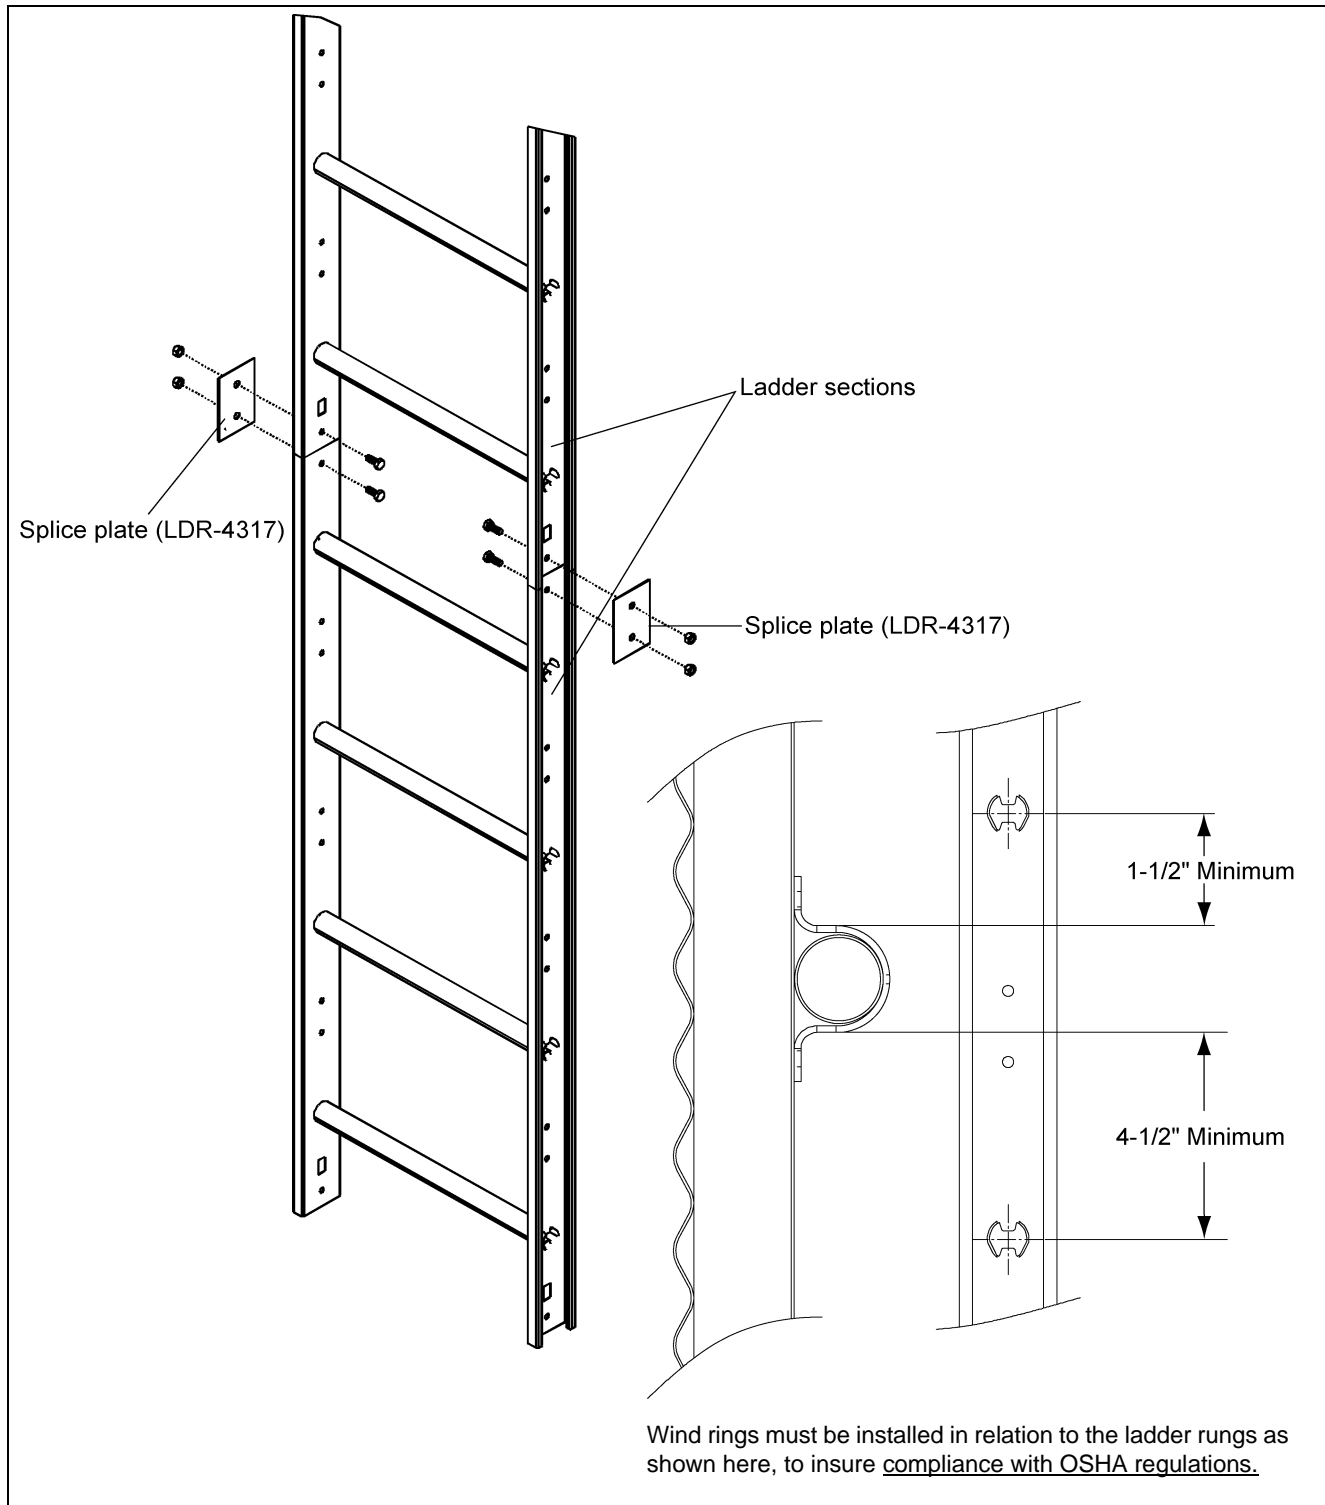

Figure 4B
Two (2) splice plates (LDR-4317) are required to attach each ladder section. The head of the bolt should be to the inside of the ladder with the splice plate on the outside as shown in Figure 4B. Use 5/16" x 3/4" bolts for all connections.
Once the two (2) 3/8" holes have been field drilled, attach the starter brackets to the sidewall as shown in Figure 5C. Check the top ladder section to make sure the ladder rung dimples are to the top. Attach starter brackets to the top of the ladder. See Figure 4B on Page 13 for the proper installation of additional ladder sections required. Standoff brackets must be installed on the ladder sections and attached to the sidewall at each horizontal seam and repeated every 32". Use 5/16" x 3/4" bin bolts for all connections. It is also necessary to field drill a 3/8" hole on the ladder section for each starter bracket (L.H. and R.H.).